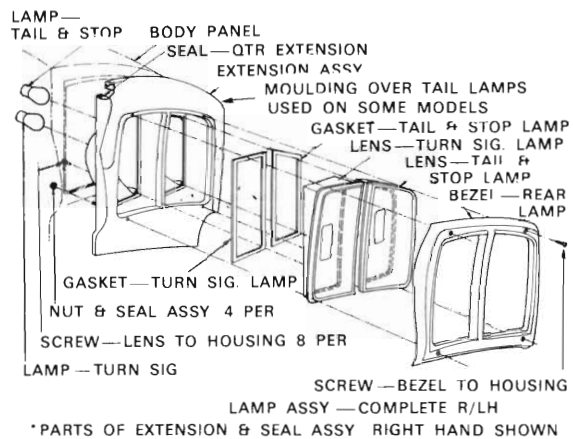

Fig. 12 - Tail lamp assembly, sedan models (disassembled view)
- (1) Remove the four screws attaching the rear lamp bezel (where fitted) to the rear fender.
- (2) From inside luggage compartment remove the four screws attaching the lens to the lamp assembly and remove the lens (refer Fig. 12).